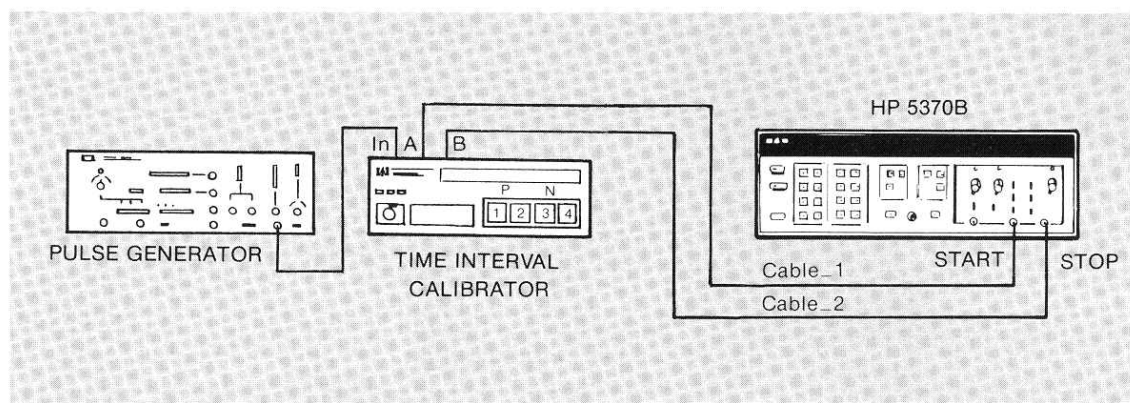

Figure 5. Equipment set-up for time interval calibration
- 1) Connect the equipment as shown in Figure 5. Cable_1 will always be part of the START input channel for calibration, and for your measurements after calibration. Cable_2 similarly will always be part of the STOP input channel. (To change these cables requires re-calibration.) (If you need to use the Time Interval Probes, see page 14.)